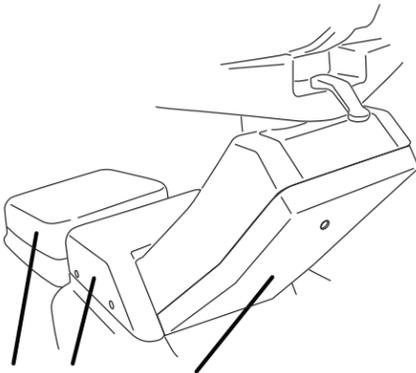

Figure 1: Remove covers.
1. Remove covers. (See Figure 1).